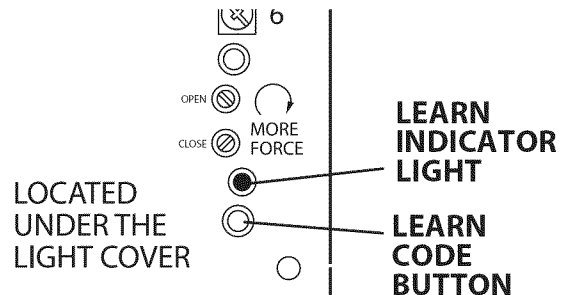

Figure 12 Learn Code Button and Indicator Light. (Located Lower Right Corner).
- Locate Learn Button and Learn Indicator Light near Terminal Block on Power Head (**Figure 12**).